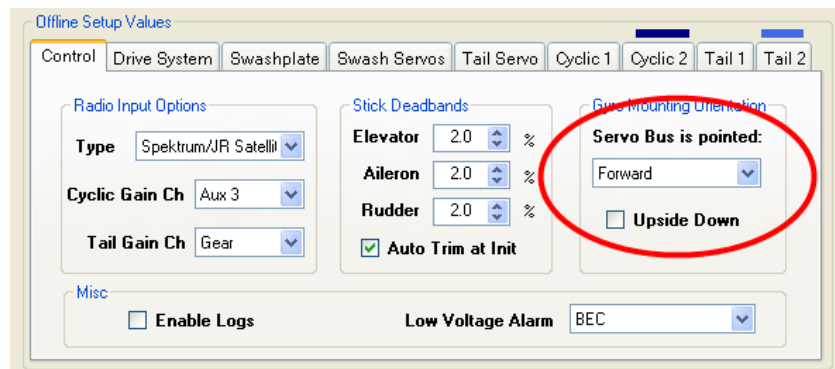

Figure 11.4 – Setting Gyro Mounting Orientation
- On the *Control* tab of the GUI, select which way the SK720's servo bus is pointed in your helicopter (circled in Figure 11.4 on the next page). Also select whether the gyro is mounted upside down (label facing down) or right side up (label facing up).